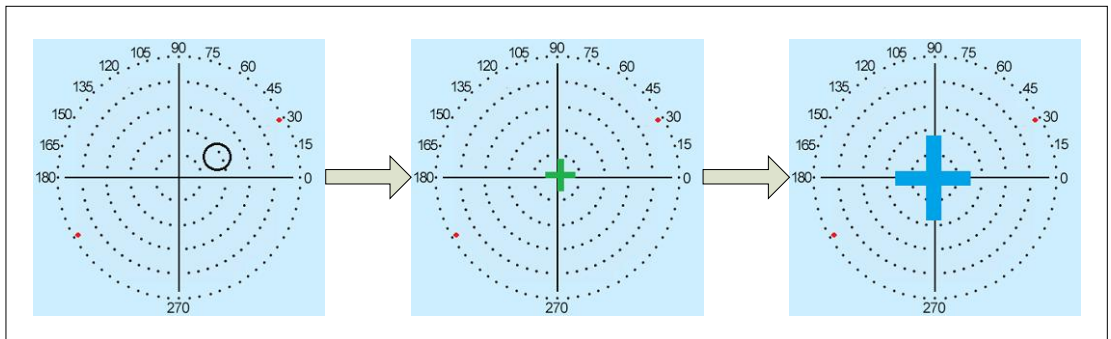

Figure6.3 Move the lens to make it alignment the target
2. Place and move the lens to bring the target close to the center of the alignment circle. as stated in figure 6.3, let the target  close to the center of the alignment circle.
Specify method is show in chapter 1 of figure 6.3 measuring single lens